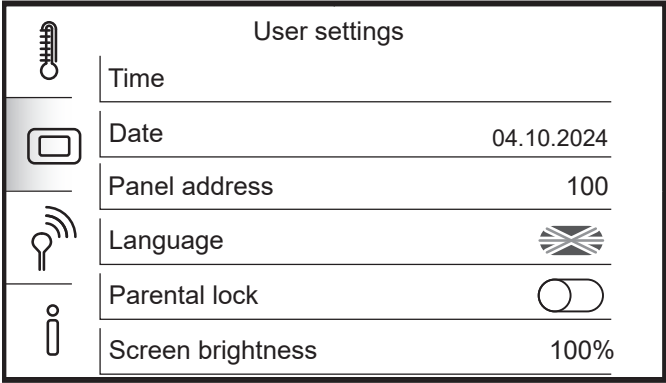

Figure 7-16: User settings menu
- Tapping the radio icon symbol (Refer to Figure 7-16):
- Tapping the  symbol (Refer to Figure 7-16) will display a panel of sub menus to access system information based on current installation.